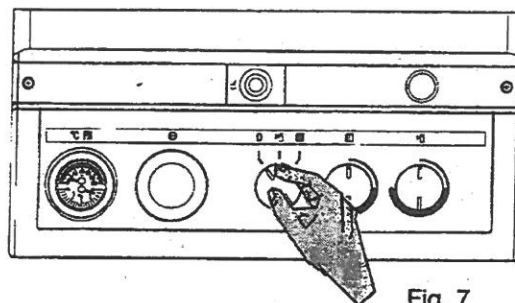

Fig. 7
Turn ON/OFF/Mode selector switch (5) to 'O' (Fig. 7)